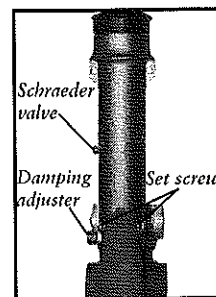

Fig. 34
4. Release all air pressure from within the shock by depressing the schraeder valve (Fig. 34).
6. With a 5mm allen wrench, remove the two damper set screws at the rear of the shock body (Fig. 34).